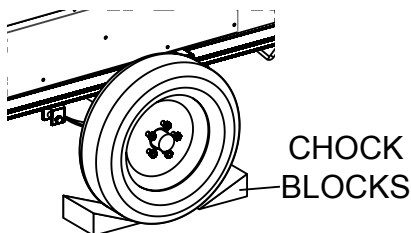

Figure 4. Chock Blocks
4. Place chock blocks under each trailer wheel to prevent rolling. See Figure 4.